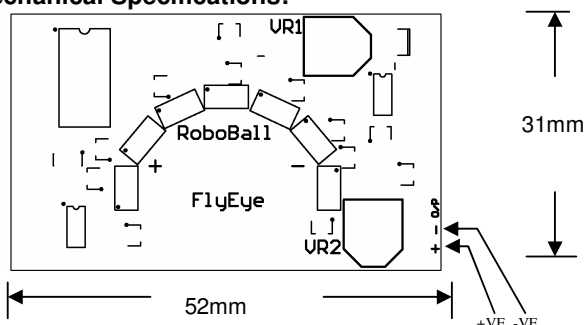
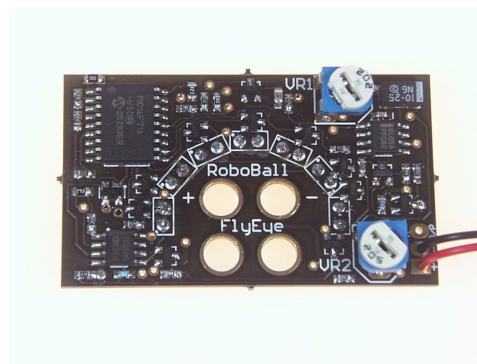

Fig.1
Fig 2
the PCB slightly as an alternative to tilting the PCB. The 4 holes in the PCB (see Fig.2) can be used to assist with mounting the **RoboBall™ FlyEye Sensor** to your robot, however due to slight hole size and hole to hole distance variations in the PCB manufacturing process we do not recommend that these holes be used for power connections, as they may prove to be unreliable.
4.1. There are two adjustments available on the **RoboBall™ FlyEye** set by VR1 & VR2, shown in Fig 1 & Fig 2. These are pre-set at manufacture and should not need altering but if you do.